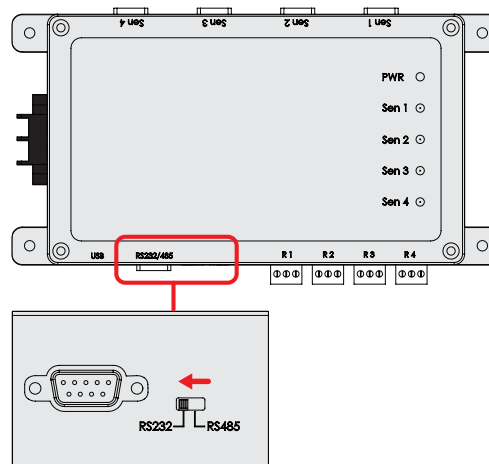

Figure 15. Changing control box output to support RS232 connection
5. Select the Serial output Switch on the control box (refer to Figure 15) to RS232.
6. Connect the cable from RS232 serial output on the control box to ES-U-3001-M converter as in Figure 15.